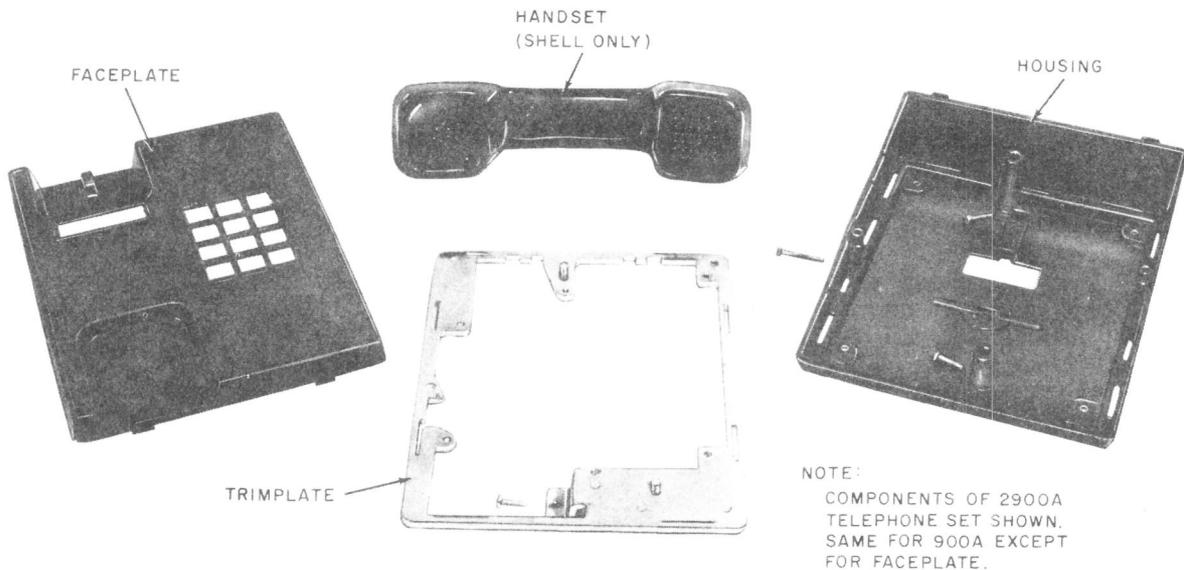

Fig. 3—Customer-Owned Components
2.01 The 900A (rotary dial) and 2900A (TOUCH-TONE® dial) equipped telephone sets are new DESIGN LINE telephone sets being made available to the customer. The customer buys the housing and handset from the telephone company and the telephone company retains ownership of the transmission and signaling components which are mounted on a removable base and incorporated in the handset (Fig. 3, 4, and 5).